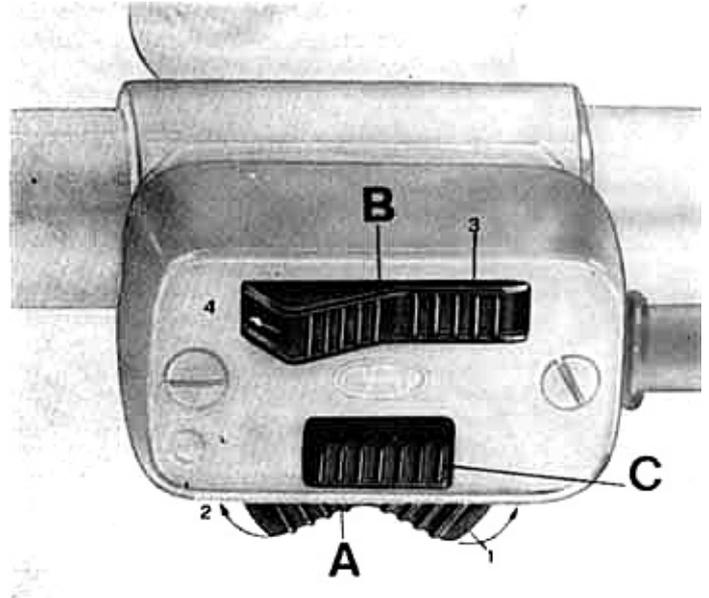

Fig. 7
- «2» Running position or machine ready to set out. All controls on. For daylight driving no other position necessary. For night driving levers A and B on the left handlebar must be switched on (Fig. 7).
DIMMER SWITCH AND HORN BUTTON (FIG. 7)